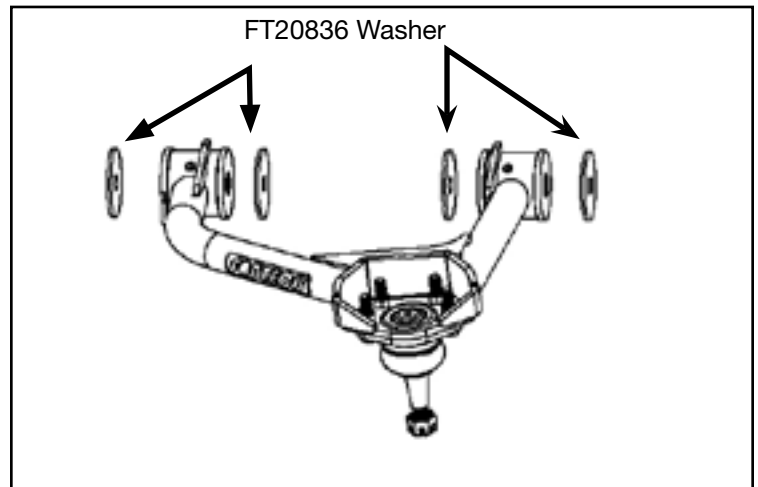

FIGURE 35 - STEP 26
26. Install the FT20833 (Driver) & FT20834 (Pass) upper control arms using the factory bolts. **NOTE: When installing the arms, install a FT20836 (washer) on both sides of the bushings. Do not tighten at this time. SEE FIGURE 35**